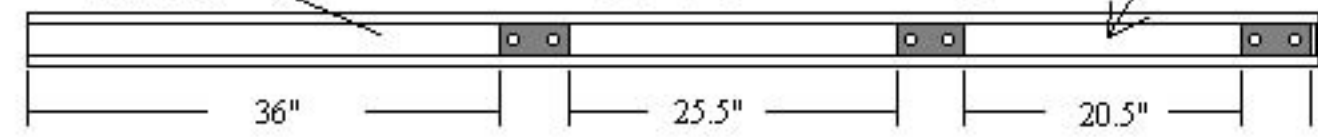

FIG.2
2. Plastic Bag labeled #3 remove contents and insert black "T" nuts #6 into roof track slot 6a to both roof tracks #15 and space apart as shown in Fig. 2 page 3.